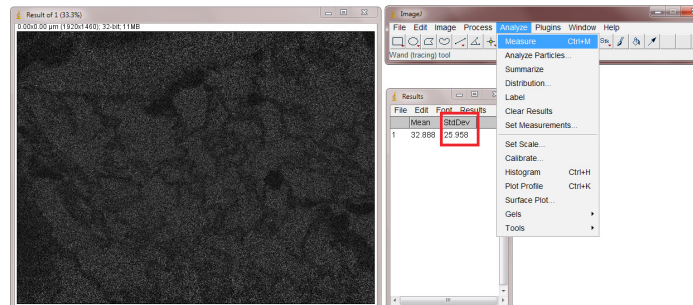

Figure 7
5. Measure the Standard Deviation of the diff image, we'll call this Standard deviation_{Diff image} (Figure 7).